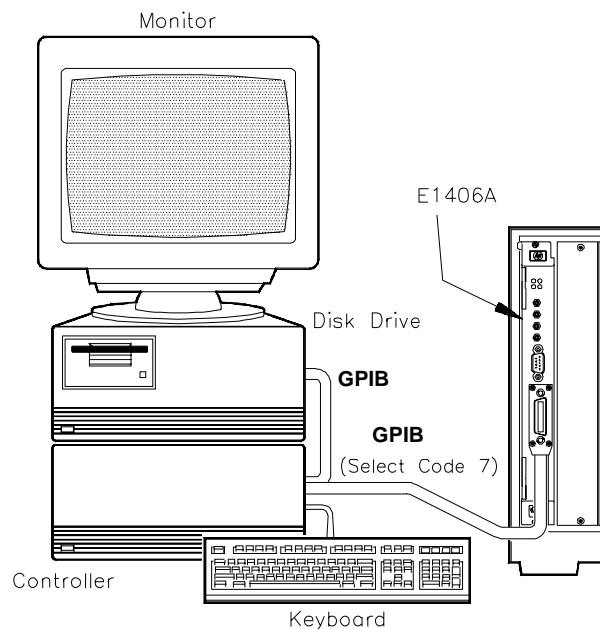

Figure 2-9. Test F-2. General System Information
- Connect computer to command module (see Figure 2-9)